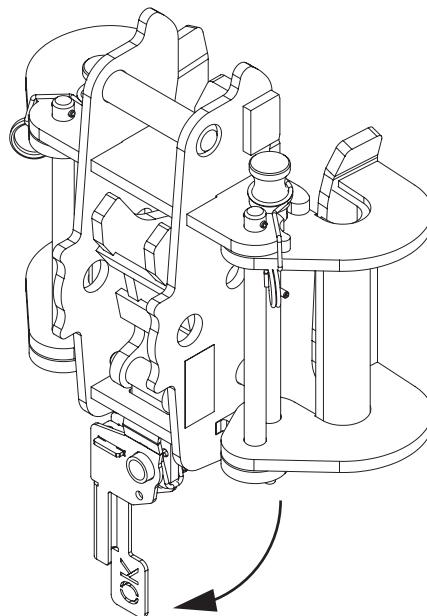

Fig. C5.14
- To deactivate the Climbing Shoe RCS, swivel the Visual Aid Climbing Shoe RCS downwards. (Fig. C5.14)